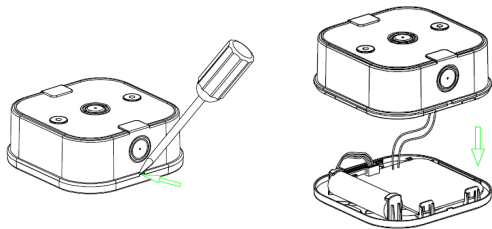

Fig. 1
- Remove the front cover by inserting a small flat screwdriver on the side of the luminaire, see Fig. 1